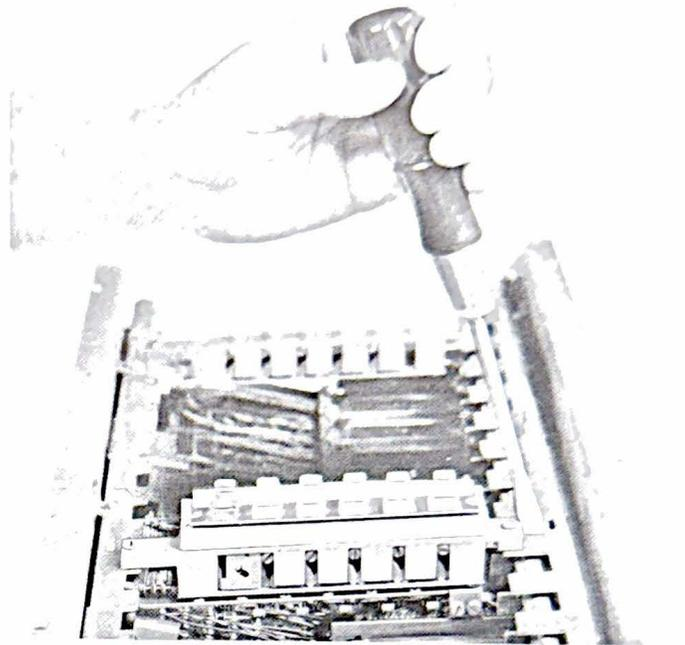

Fig. 11 — Spreading Framework
8. Tighten the screw at the PIVOT BAR end of the key while holding the framework spread apart. Fig. 11 and 11A illustrate a method for making this adjustment. To avoid breaking the key mounting screws, use only enough force to hold the framework spread apart.
9. Loosen the Allen set screw holding the latch arm bracket for the 599 key. Push the latch bar fully into the key and retighten the set screw without disturbing the PIVOT BAR. The Allen set screw must be *very tight* to maintain this adjustment. An Allen No. 607 Handi-Hex key 5/64 inch or equivalent is recommended for tightening the set screws. In most cases the latch arm bracket will be against the PIVOT BAR and require no further adjustment.